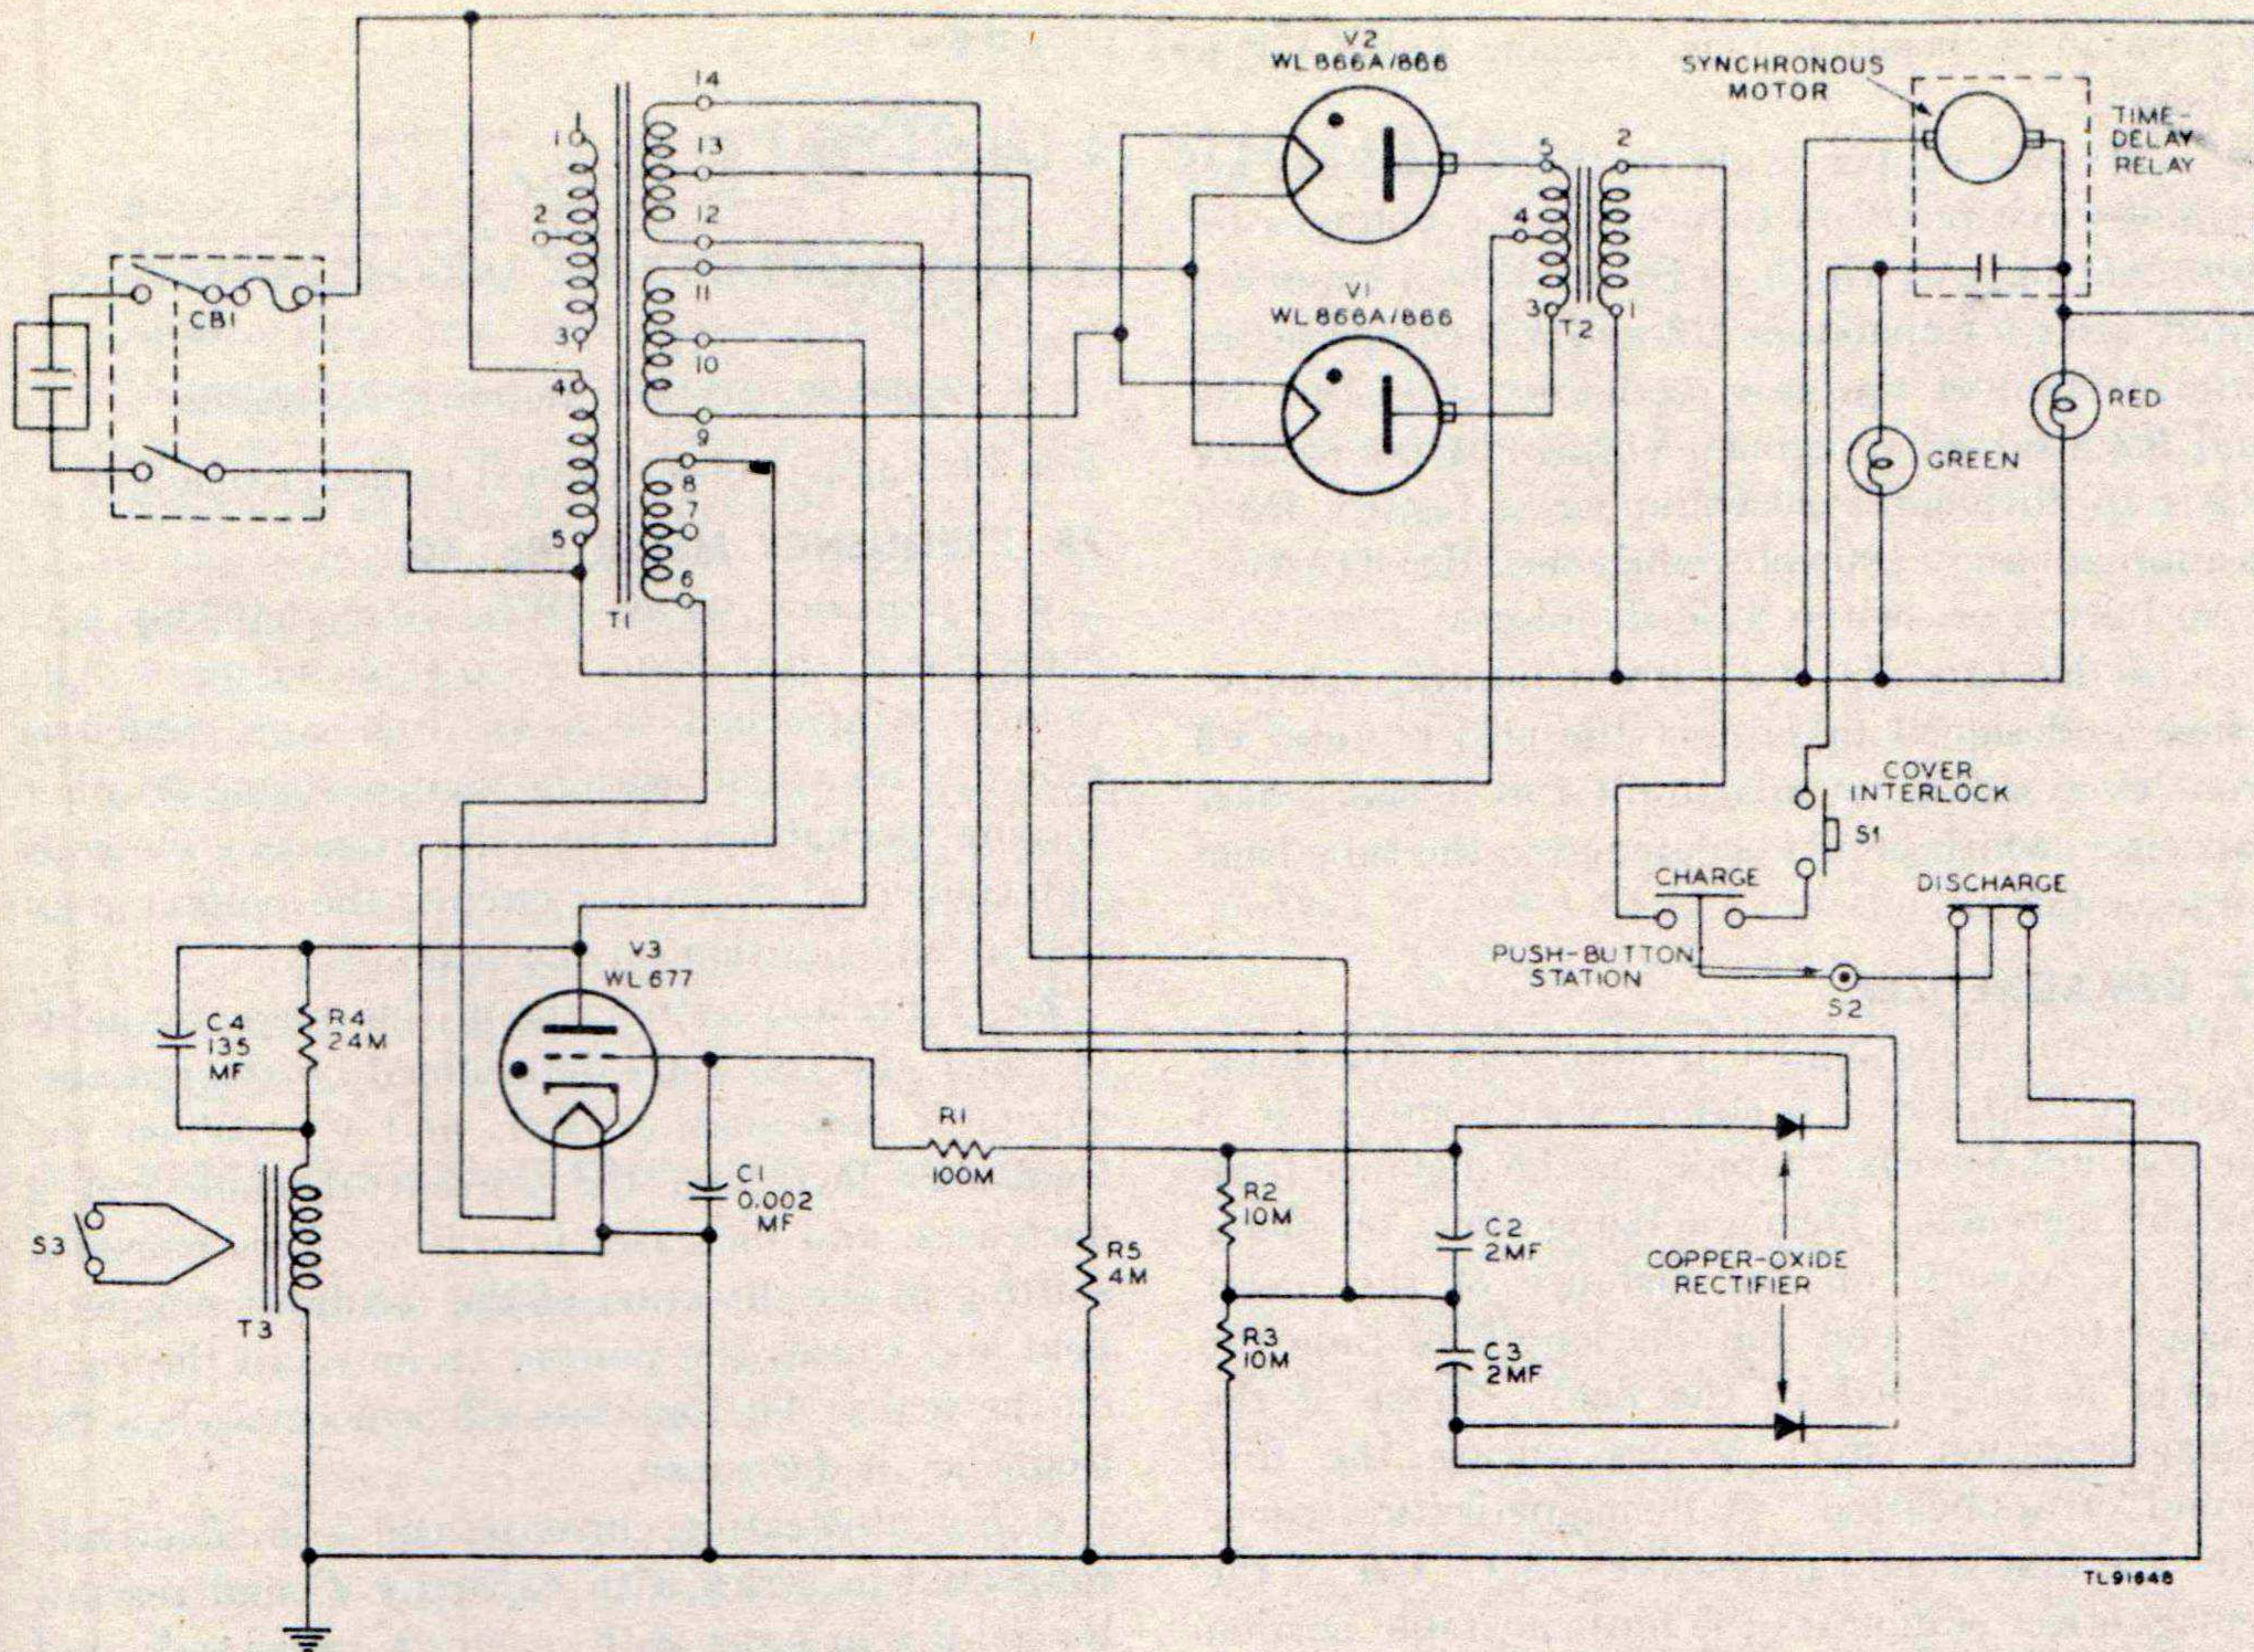

Figure 38. Schematic diagram of Magnet Charger TS-336/GSM-1.
76. CIRCUIT ANALYSIS OF MAGNET CHARGER (fig. 38).